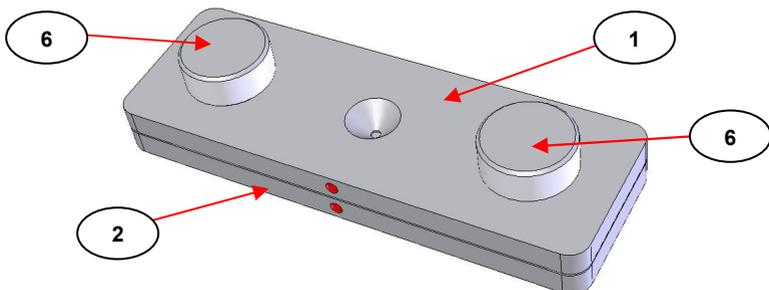

Fig 3. Correct DC-3 Assembly (Upper Plate Top View)
Note: *There are red alignment spots on one edge of each of the upper (1) and lower (2) support plates of the DC-3 accessory. Whenever the DC-3 is constructed to bring the diamond window (3) surfaces together, the plates should always be assembled so that the red spots are together on the same side of the accessory (See Fig 3.)*